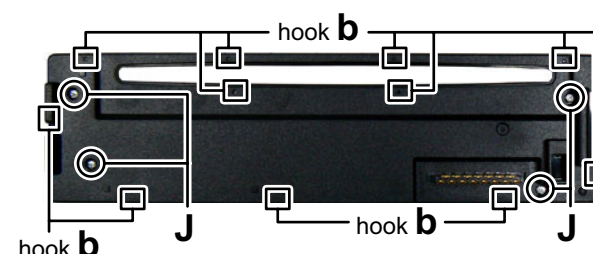

Fig.7
3.1.6 Removing the Switch board (See Fig.7)
3.2.4 Removing the PHOTO BOARD assembly (See Fig.7 and 8)
- From the bottom side of the top cover, release the projection **e** from the notch of the disc plate. (See Fig.7.)
- Take out the disc plate in the direction of the arrow. (See Fig.7.)